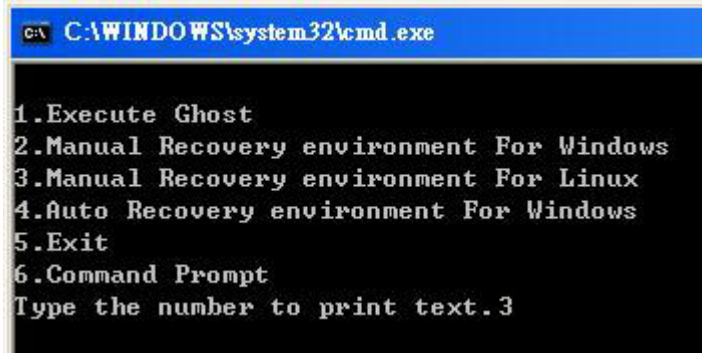

Figure C-31: Manual Recovery Environment for Linux
Step 4: Build the recovery partition. Press any key to boot from the recovery CD. It will take a while to launch the recovery tool. Please be patient. When the recovery tool setup menu appears, type <3> and press <Enter> (**Figure C-31**). The Symantec Ghost window appears and starts configuring the system to build a